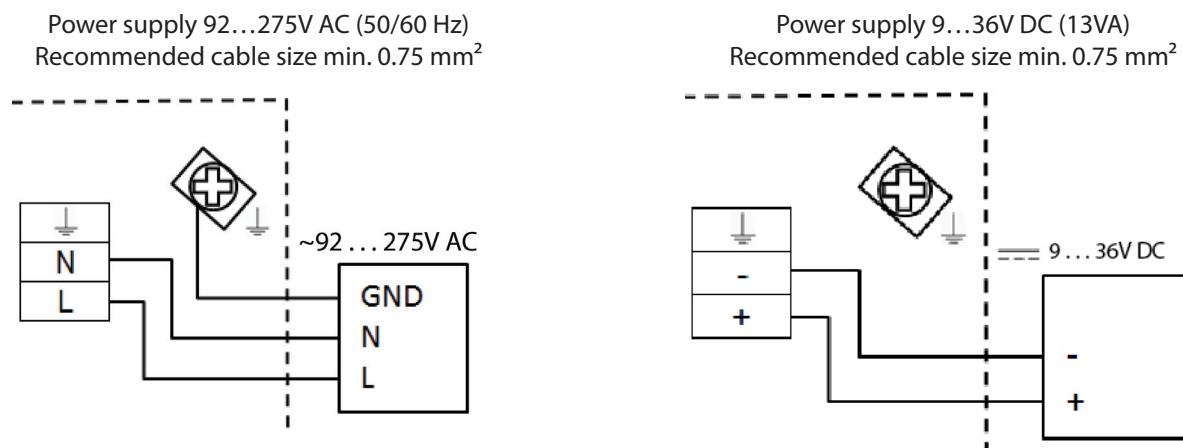

Figure 20: Auxiliary power connection
3. Connect as shown in *Figure 20*.